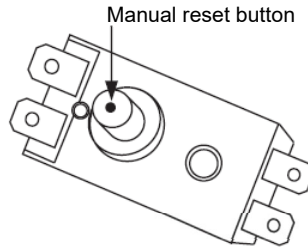

FIG 6
3. Press the button, located at the center of the thermal switch, see Fig.6;